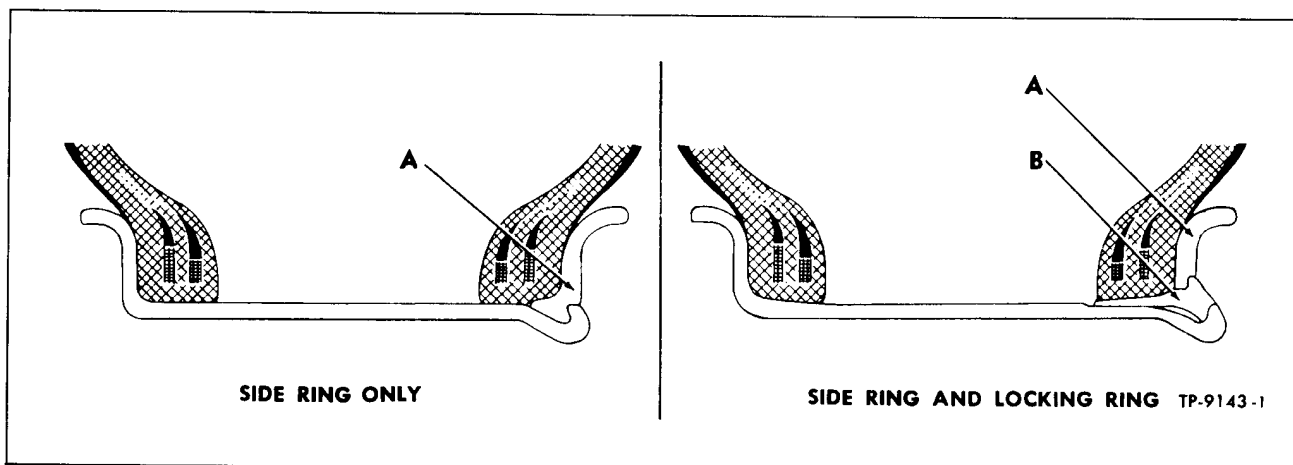

Figure 6—Wheel Rims and Lock Rings (For Tube Type Tires)
Tube type tires are mounted on flat base wheel rims. Inner tire flanges are integral with wheel rims. Tires are secured on wheel rims by continuous type side rings on some vehicles, while other vehicles use a side ring and locking ring (fig. 6). Tubeless tires are mounted on a one-piece drop-center rim that requires no side ring or locking ring. Instructions which follow cover removal and installation of tube type tires only.
2. Position side ring "A" (fig. 6) on tire bead. Side ring will be automatically centered when locking ring "B" (fig. 6) is in place.